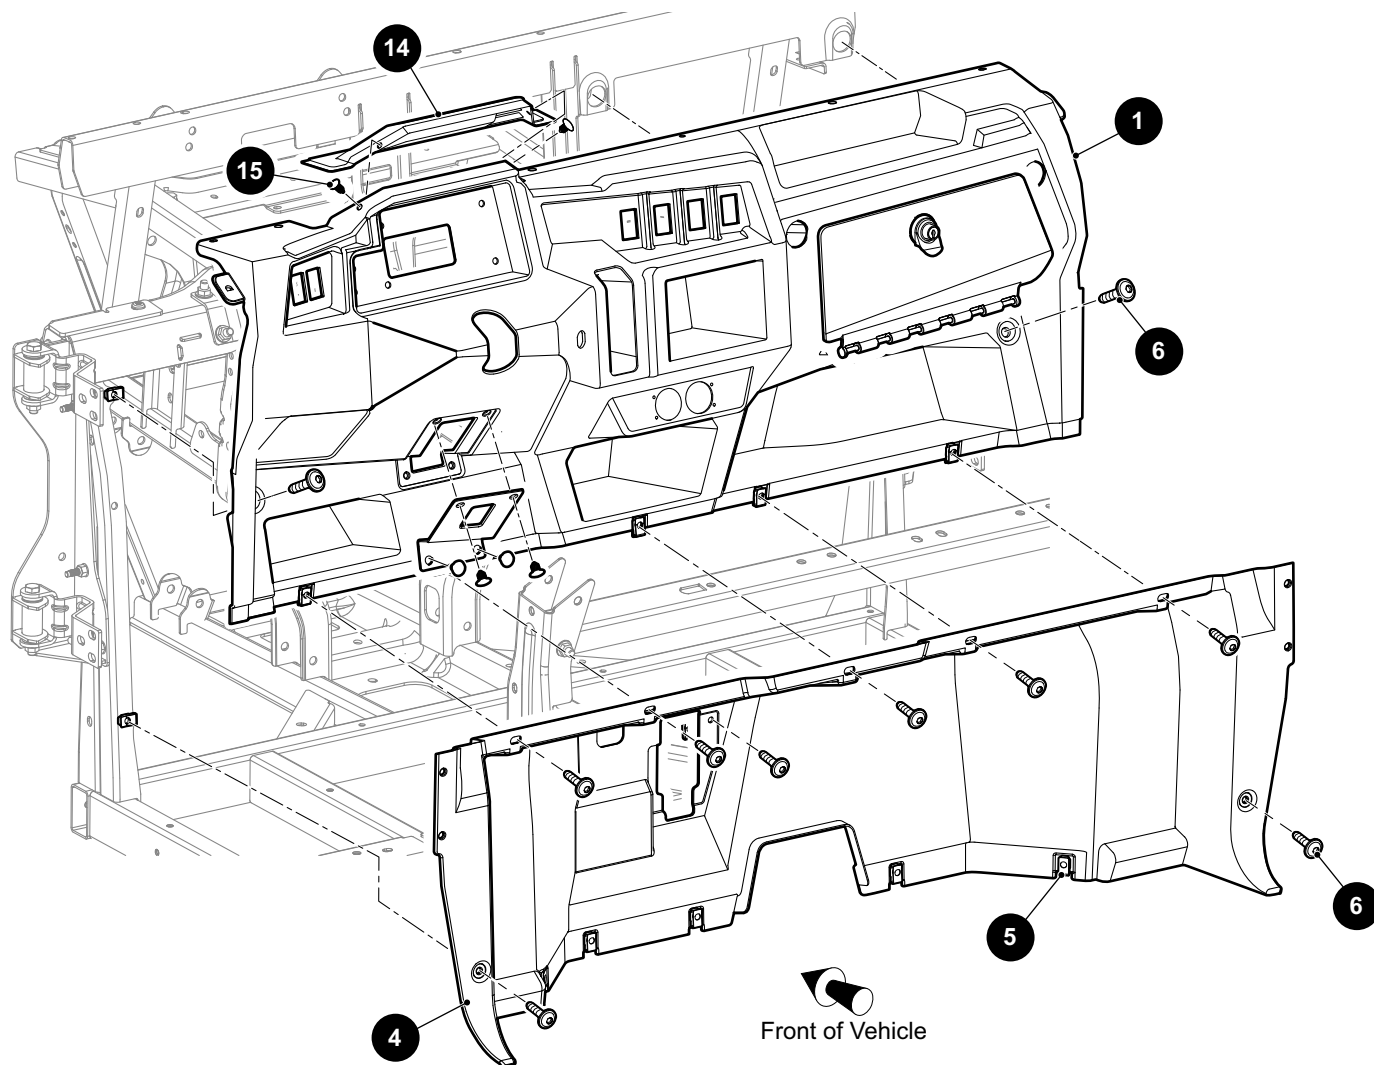

Fig. 2 Dash and Front Bulkhead
2. Remove plastic ratchet fasteners (15) that secure the display cover (14) to the dash (1). Remove the cover (See Fig. 2).